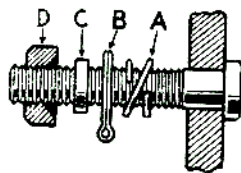

Fig. M-15—Feed terminal assembly
10. In the case of the feed terminal screw, which holds the bakelite cover in position, the correct order for assembly is spring washer (Fig. M-15, A) next to the bakelite pedestal, then the tag (B), lead washer (C) and countersunk nut (D). Under no circumstances should this assembly be shortened by leaving out the spring washer, or in any other way, as this would probably result in distortion or breakage of the pedestal when the nut holding the cover in position is tightened.